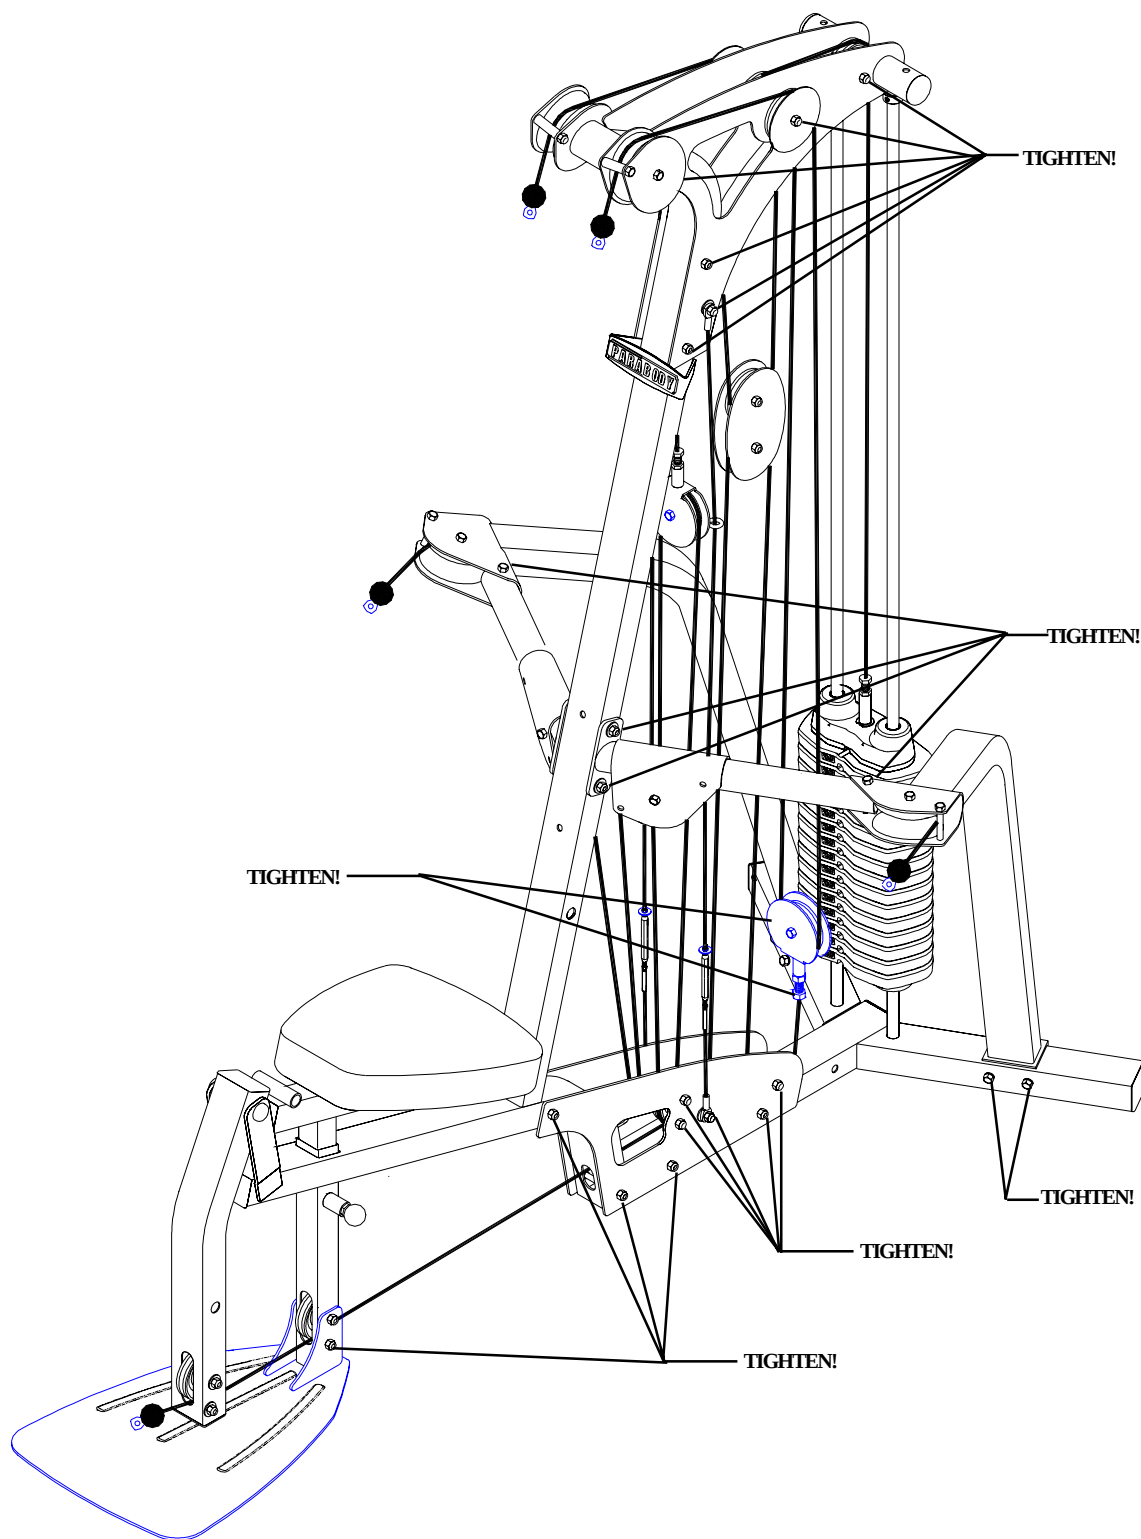

FIGURE 25
- **SECURELY** tighten all loose frame connections as shown in FIGURE 25!